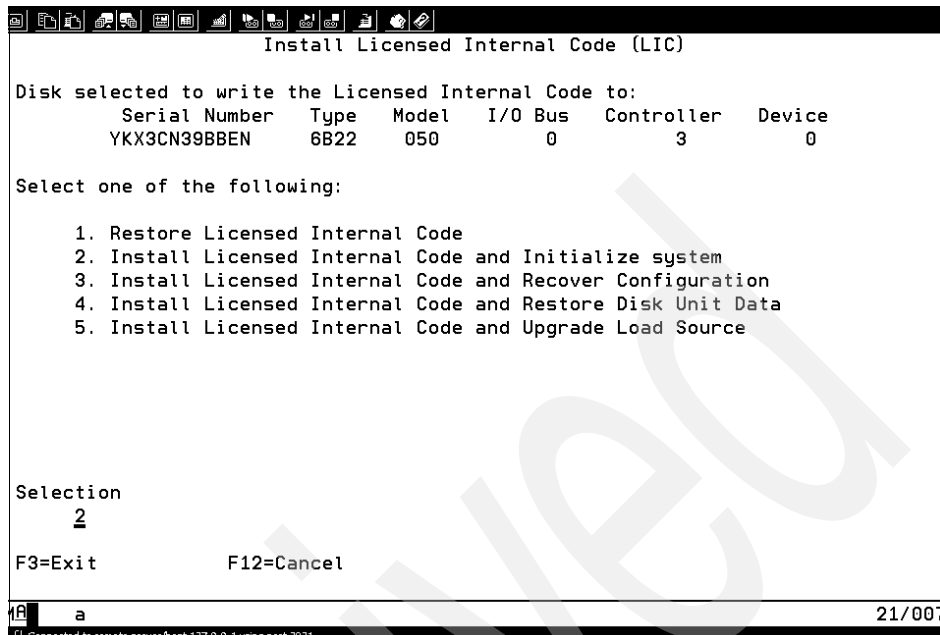

Figure 7-53 Select options
- The install Licensed Code (LIC) menu appears on the console as shown in Figure 7-53 on page 291. Type 2 for Install Licensed Internal Code and Initialize system, then press Enter to continue.